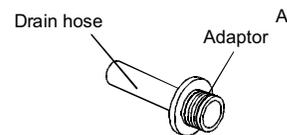

Fig.7
- Make sure the drain hose is onto the adaptor A (See Fig. 7, placed in the bucket)